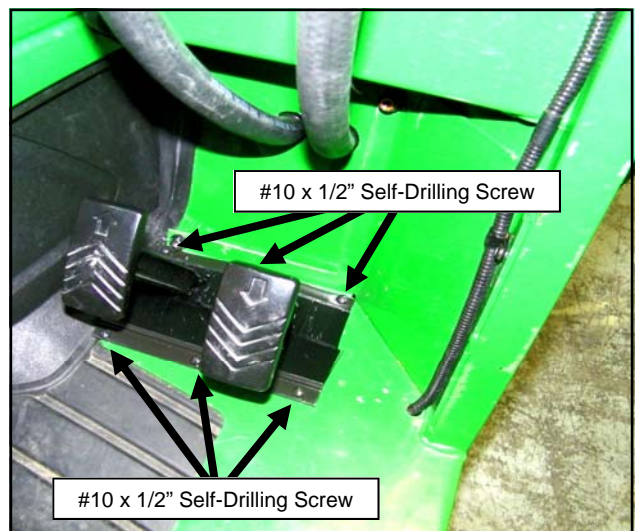

Fig. 2.1 (Attach Brushes to Right Floorboard)
- 2.1 Attach brushes in front and in back of the pedals with the 1/2" long self-drilling screws in the pre-drilled holes in the cab floorboard. See Figure 2.1.